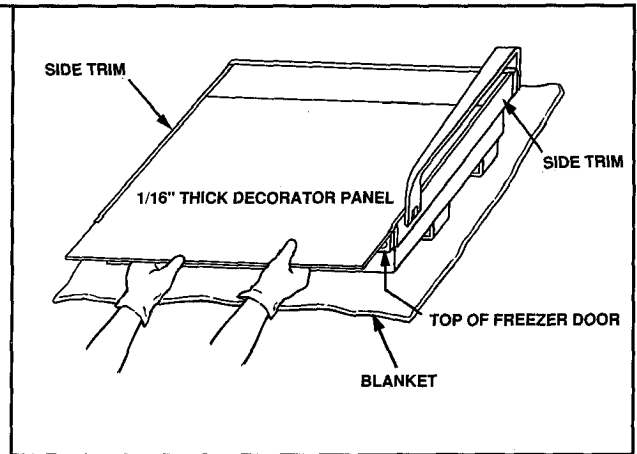

Figure 62
- b. Slide decorator panel in place between side trim. Do NOT remove peel-off paper from double back tape on trim. First practice installing top trim to avoid mistakes. See Figure 62.